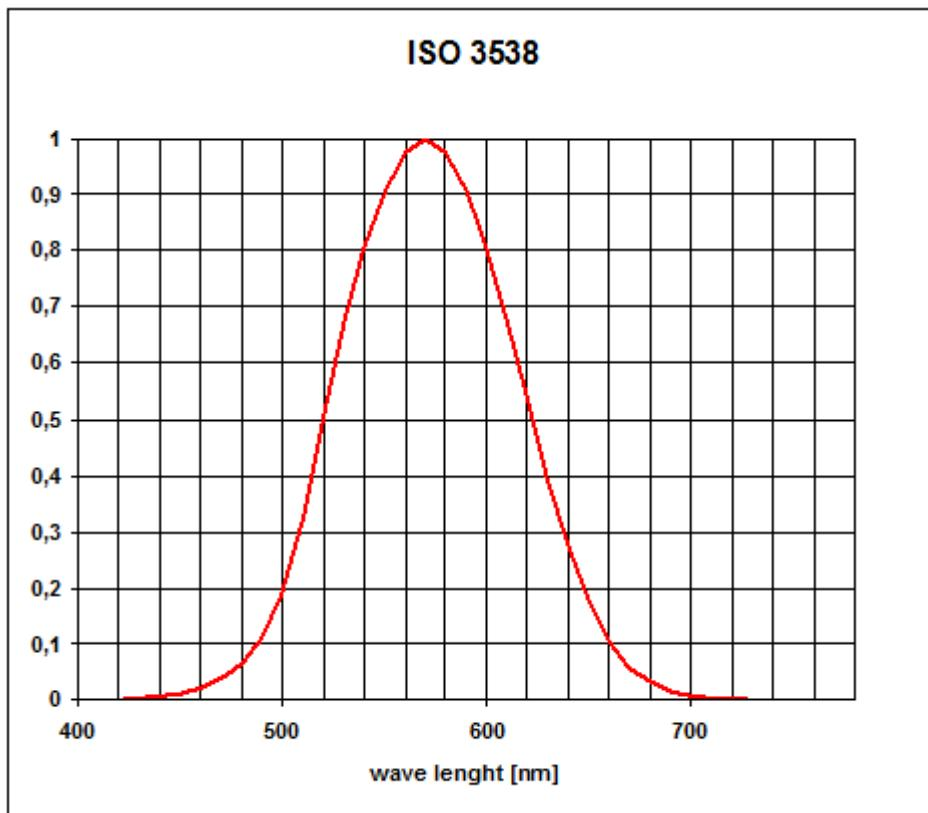
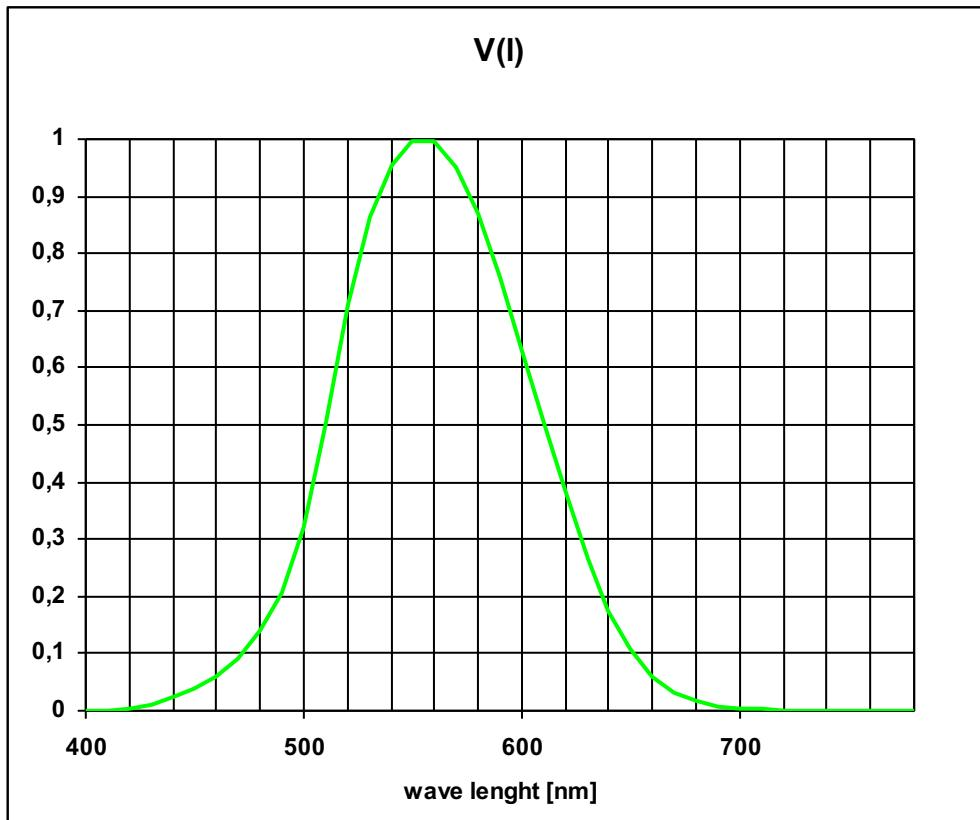
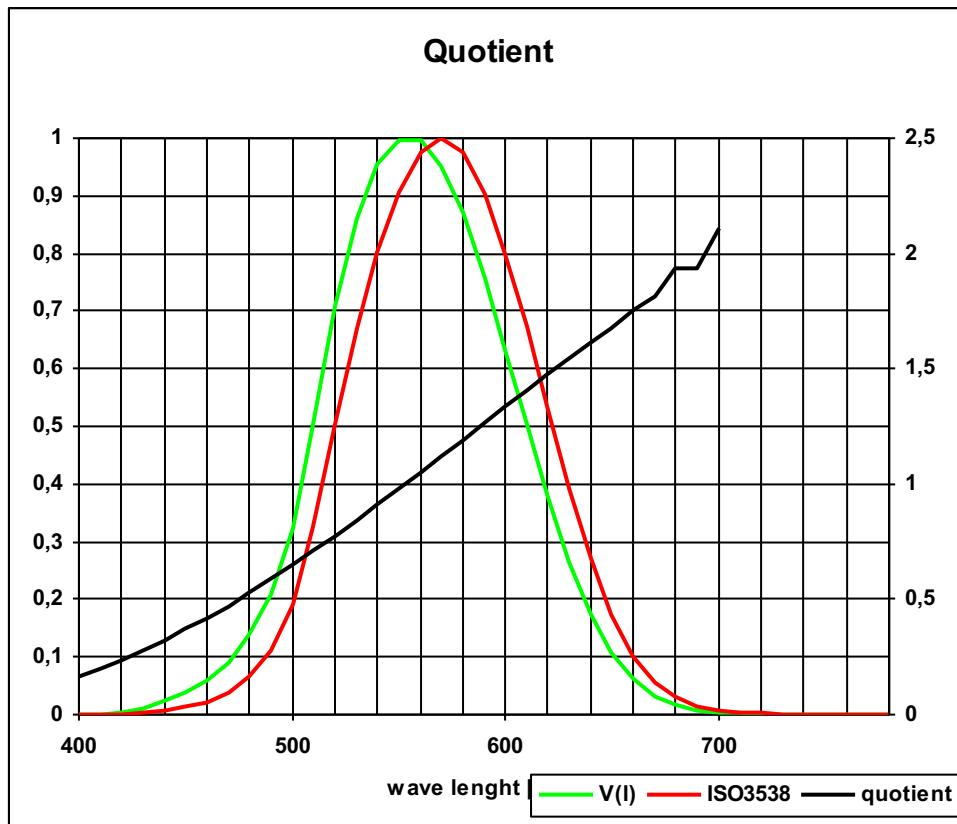

Fig. 1
Fig. 2
Fig. 4
**Figure 1** presents the color temperature characteristic curve essential for tint meters.
**Figure 2** shows the ideal color temperature characteristic curve recommended for the measuring head of a tint meter according to CIE.
Dividing the ordinates of the color temperature characteristic curve reached by the tint meter (**Fig. 1**) by the ordinates of the ideal color temperature characteristic curve recommended for the measuring head (**Fig. 2**) we obtain a curve illustrating the color characteristic of the illuminant type A with a color temperature 2856K (**Fig. 4**).